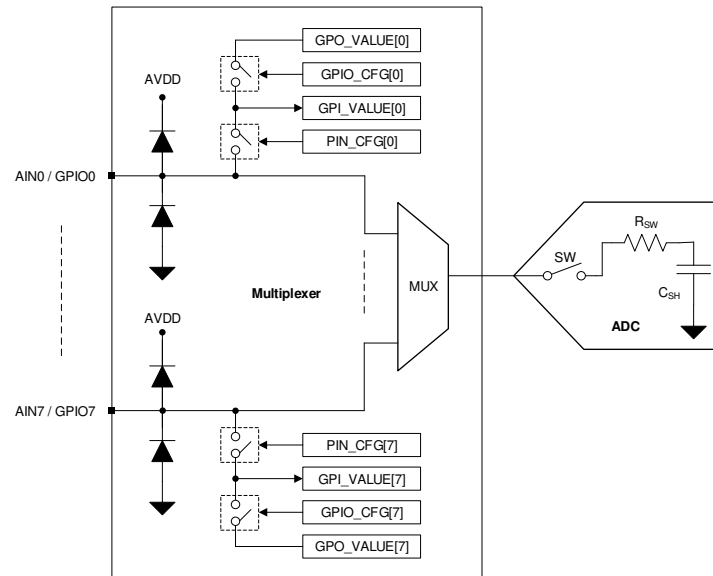

图 22. Analog Inputs, GPIOs, and ADC Connections
The eight channels of the multiplexer can be independently configured as ADC inputs or general-purpose inputs/outputs (GPIOs). 图 22 shows that each input pin has ESD protection diodes to AVDD and GND. On power-up or after device reset, all eight multiplexer channels are configured as analog inputs.
图 22 shows an equivalent circuit for pins configured as analog inputs. The ADC sampling switch is represented by ideal switch (SW) in series with the resistor R_{SW} (typically 150 Ω) and the sampling capacitor, C_{SH} (typically 12 pF).